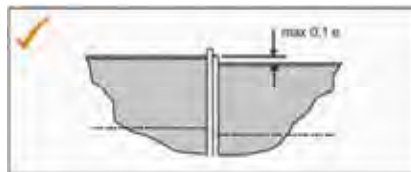

Fig. 2.5.26 Max Misalignment 10% of wall thickness
3. The shape of weld bead is indication of proper weld and both bead shall have uniform look. Refer Fig 2.5.26.